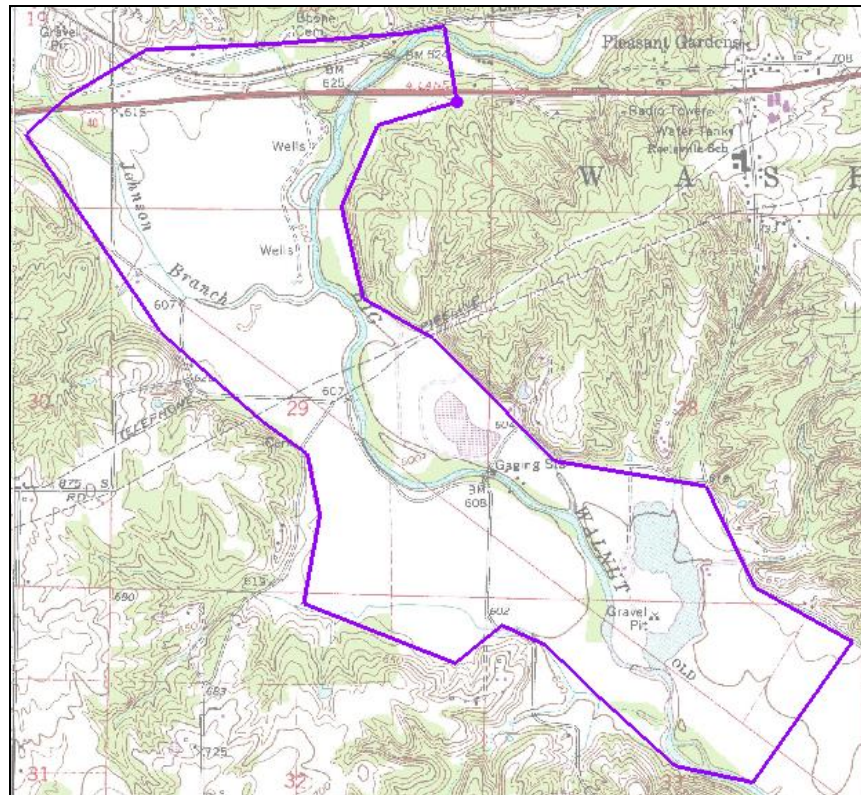

Figure 3 Boundary arcs
It is now possible to enter the model data. First, create a MODAEM conceptual model. Second, create coverages to define the boundary conditions and aquifer properties. The boundary of the model is shown in Figure 3.
10. Using the **Create Arc**  tool, click out the boundary as shown in Figure 3 below.